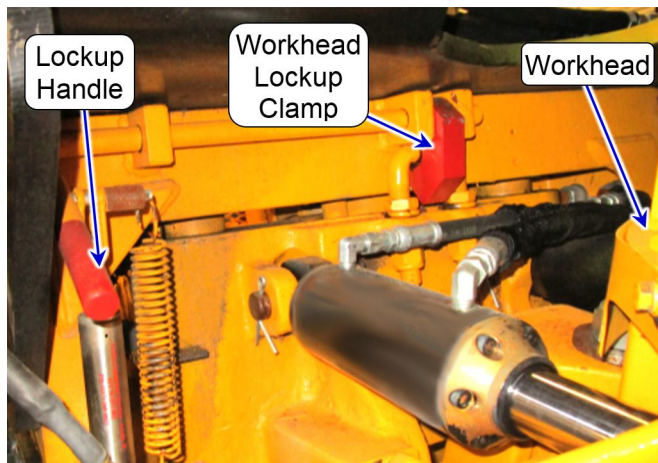

Figure 6-5: Workhead Lockup Engaged
10. Visually make sure the locks are engaged. See Figure 6-5.